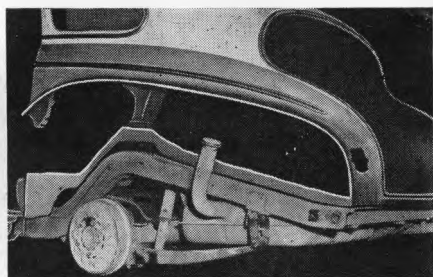
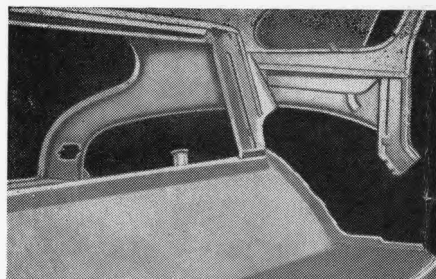

FIG. 7
FIG. 8
9. Fig. 7 shows an exterior view of the body after the wheelhouse is removed and Fig. 8 an interior view.
All paint spray operations are now performed in "water wash" booths. An old style booth is shown in Figure 7 in which the air is cleaned by fans only. Figure 8 shows a "water wash" booth in which the absence of paint spray in the air and on the walls will be noted.